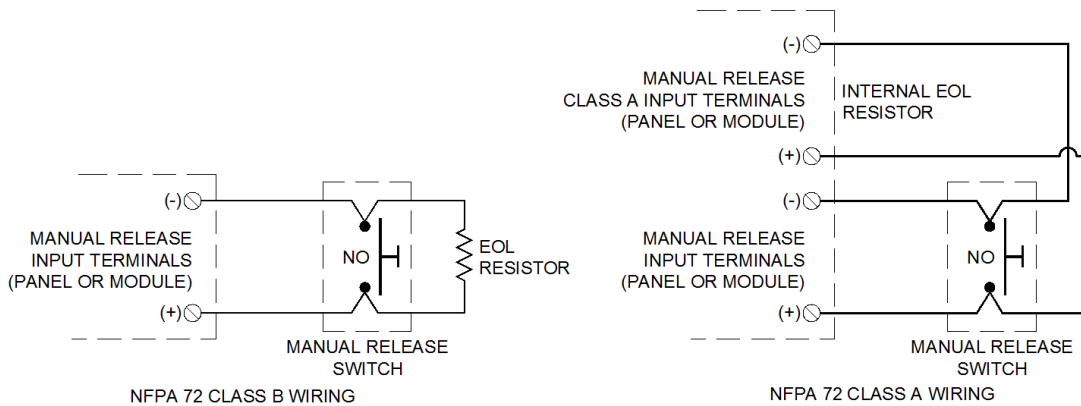

Figure 7 Typical Manual Release Switch Wiring
3. Connect field wiring to contact blocks. See Figures 7, 8 and 9 for wiring diagrams.